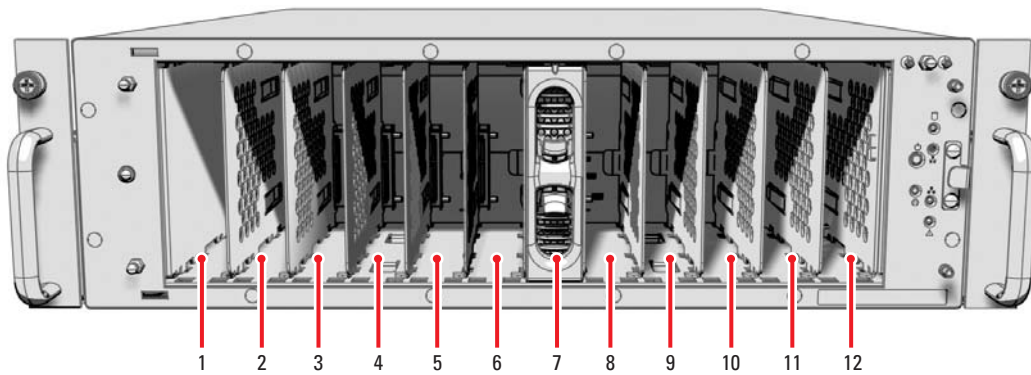
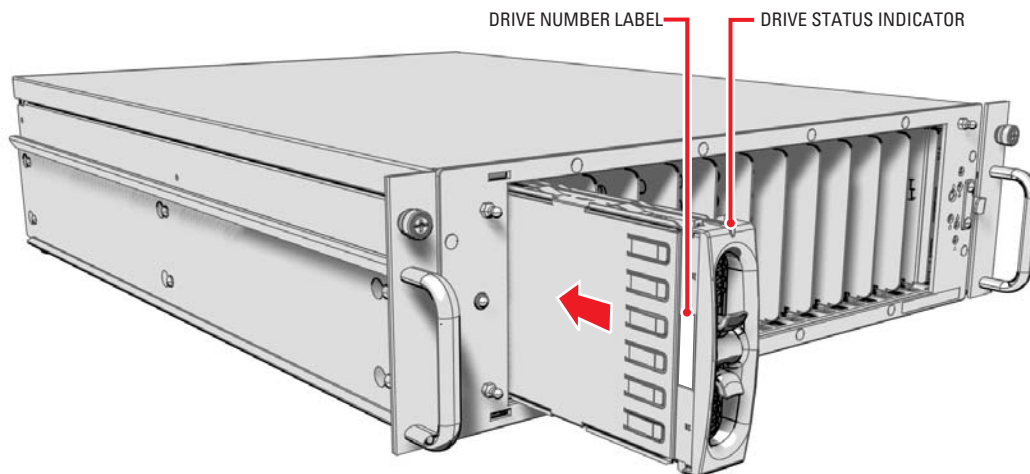

Figure 17. Drive Bay Assignment
Figure 18. Hard Disk Drive Carrier Installation
2. Identify the drive bay for each hard drive carrier. The drive bays and drive carriers are numbered from 1 to 12 (refer to Figure 17 and Figure 18).